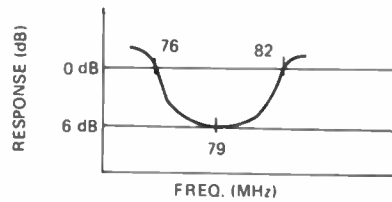

FIGURE 9
- Step 3: Adjust L4, L5 and L6 results at maximum output and best symmetry curve as shown in Figure 9.